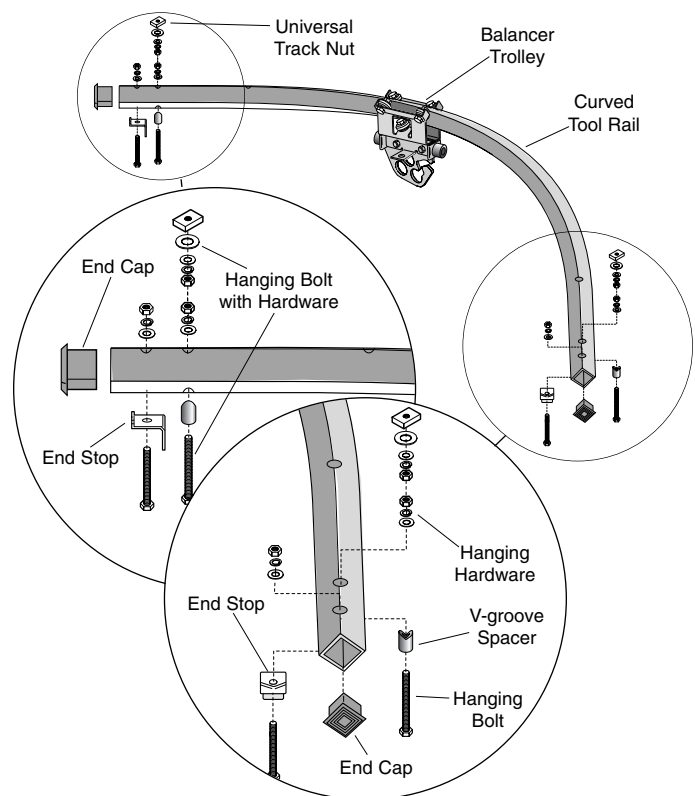

FIGURE 2
A. Put 5/16" x 3.5" bolt through V-groove spacer, then through curved rail from under side. Secure bolt with flat washer, split lock washer and 5/16" hex nut. Tighten. See Figure 2 .
B. Thread 5/16" hex nuts, 5/16" split lock washers, 5/16" flat washers, 3/8" flat washers, and universal track nuts onto bolts. Do not tighten. See Figure 2.
STEP 5. Attach end stops using 5/16" x 2.5" bolts. See Figure 2.